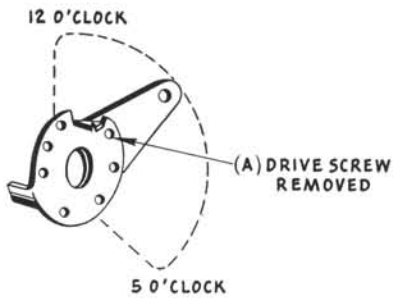

Figure 5
If bracket (F) is pointing between 12 and 5 o'clock, pry out drive screw (A) with a screw driver as shown in figure 5. Do not straighten the tab.